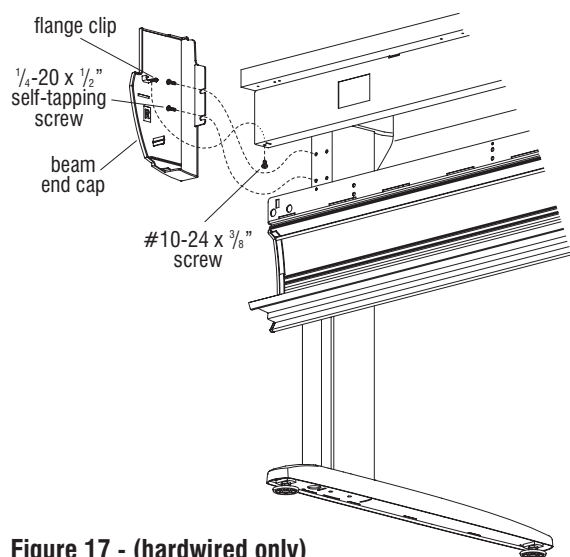

Figure 17 - (hardwired only)
1. Snap the beam end cap into the open end of the steel power and data beam. Secure the end panel to the leg as illustrated with two $\frac{1}{4}$ -20 x $\frac{1}{2}$ " self-tapping screws. Also secure the clip flange of the beam end cap to the power beam using #10-24 x $\frac{3}{8}$ " screw (Figure 17).